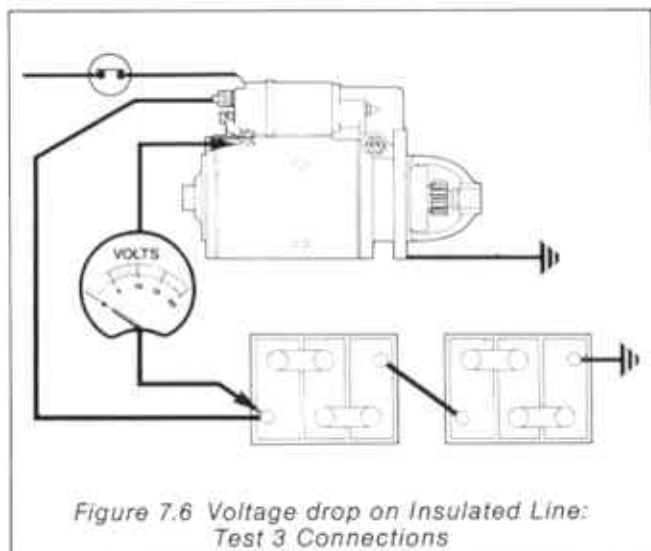

Figure 7.6 Voltage drop on Insulated Line: Test 3 Connections
7.14 Connect the voltmeter between the starter input terminal and the insulated battery terminal as shown in Figure 7.6. With the starter switch open, the voltmeter should read the battery voltage. When the starter switch is operated the voltmeter reading should be practically zero. A high voltmeter reading indicates a high resistance in the starter circuit and all insulated connections at the battery, solenoid and starter should be checked.